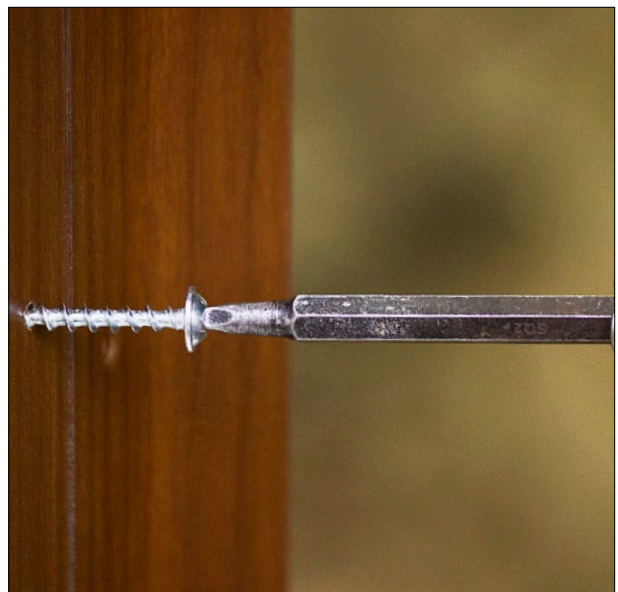

Fig.71
Step 2: Ensure that the corners of the LUX Snap T corner are square with the substrate of the wall then fasten with specified screw (Fig.71).